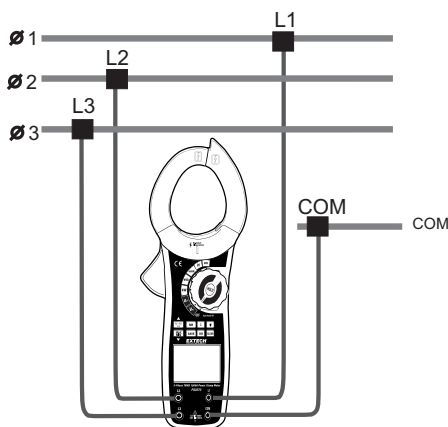

Figure 5 (3P4W)
**3Φ4Wire:** Connect all 3 leads (red -L1), yellow-L2, and blue-L3) into the L1, L2, & L3 meter input terminals and connect each to a corresponding phase wire. (see fig 5)